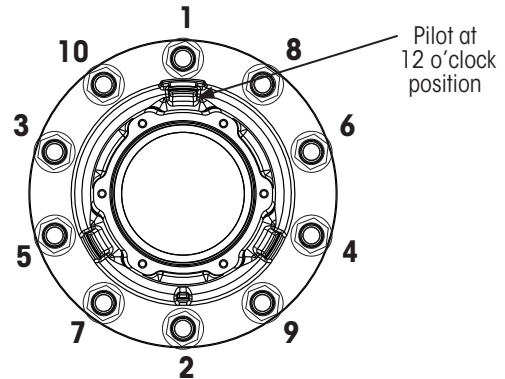
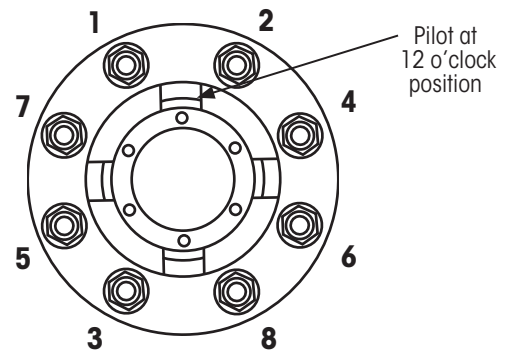

Figure 21: 10 stud tightening sequence
Figure 22: 8 stud tightening sequence
8. Using sequence shown in Figure 21 and Figure 22, **tighten** all wheel nuts to 50 ft. lbs. (68 Nm) of torque.